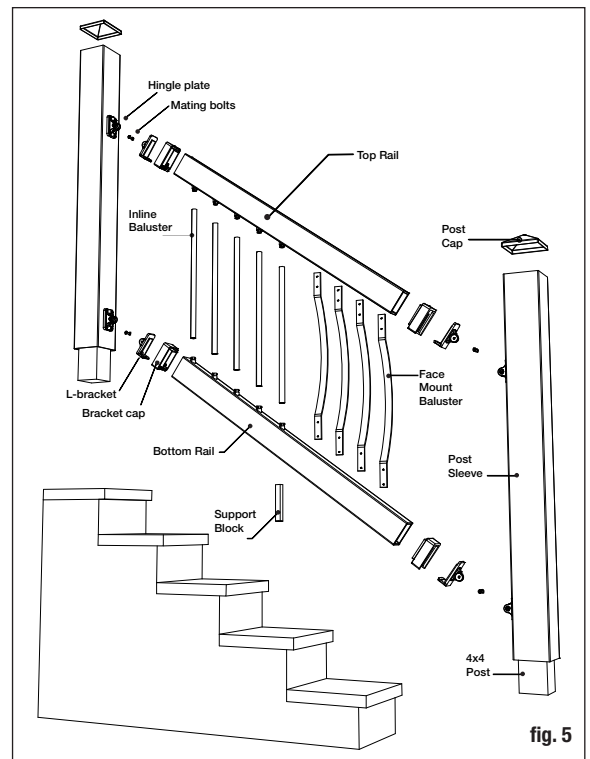

fig. 5
**Classic and Estate balusters using connectors** Attach balusters to the lower rail by sliding onto connectors (refer to fig. 5).
**Step 7** A support block is needed at the center of each rail. Cut the support block to desired height. Attach to the bottom of the lower rail (refer to fig. 5). Find the center of the rail and pre-drill using a 1/8" drill bit. Attach the support block connector using the included screw.